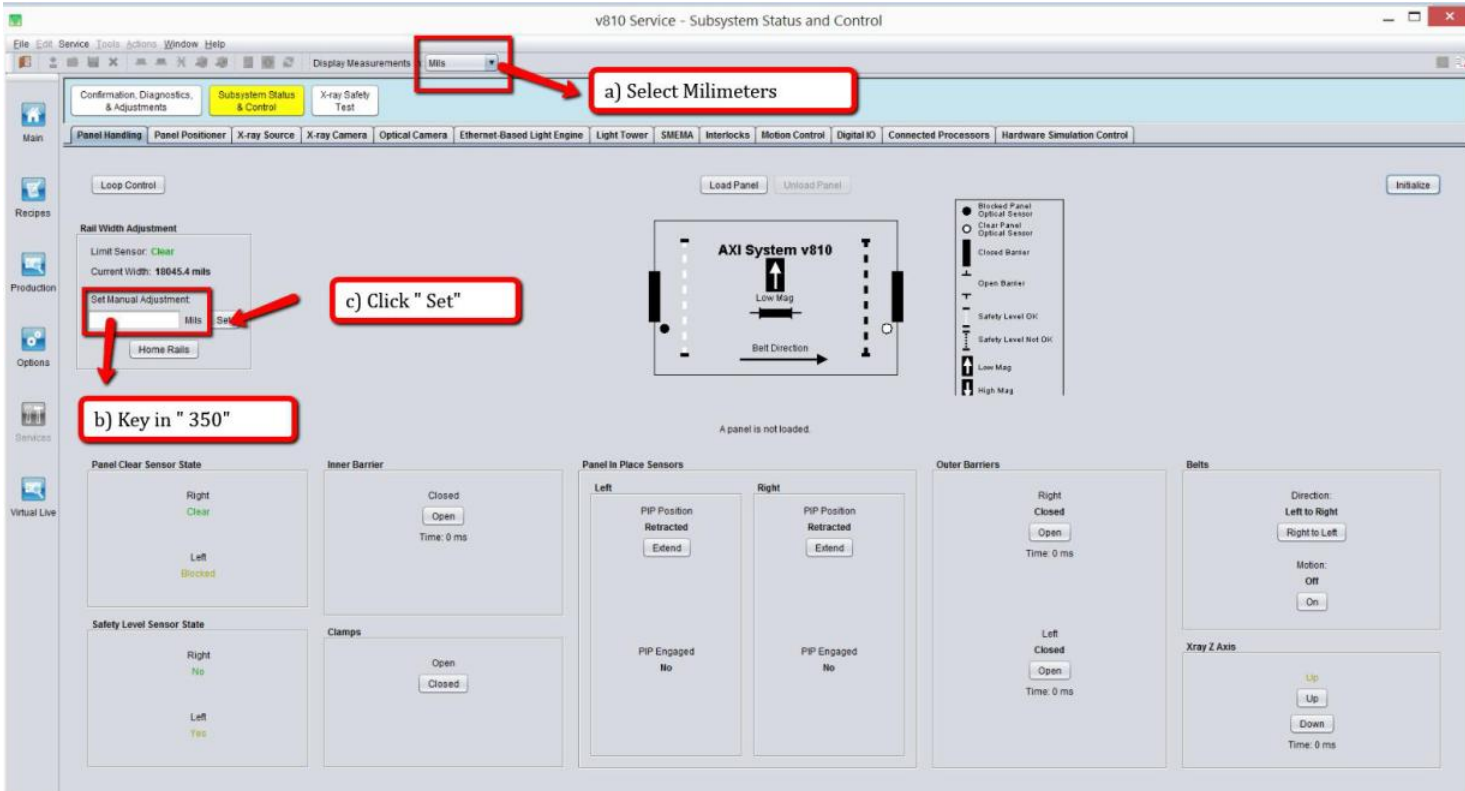

Figure 1 Panel Handling Interface
2. Set the Display Measurement to millimeters as below Figure 1
3. Go to the Set Manual Adjustment as key in 350 and click "Set" as below Figure 1.